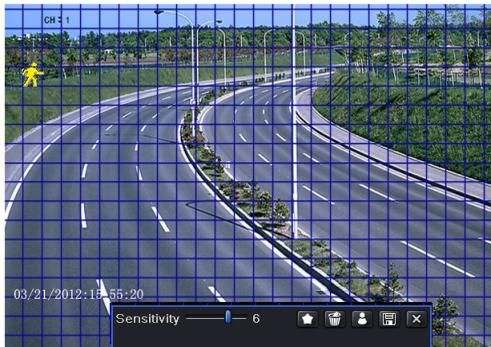

Fig 4-20 Motion-Area
Step 4: After clicking Area button, a dialog box will pop-up as Fig 4-20: